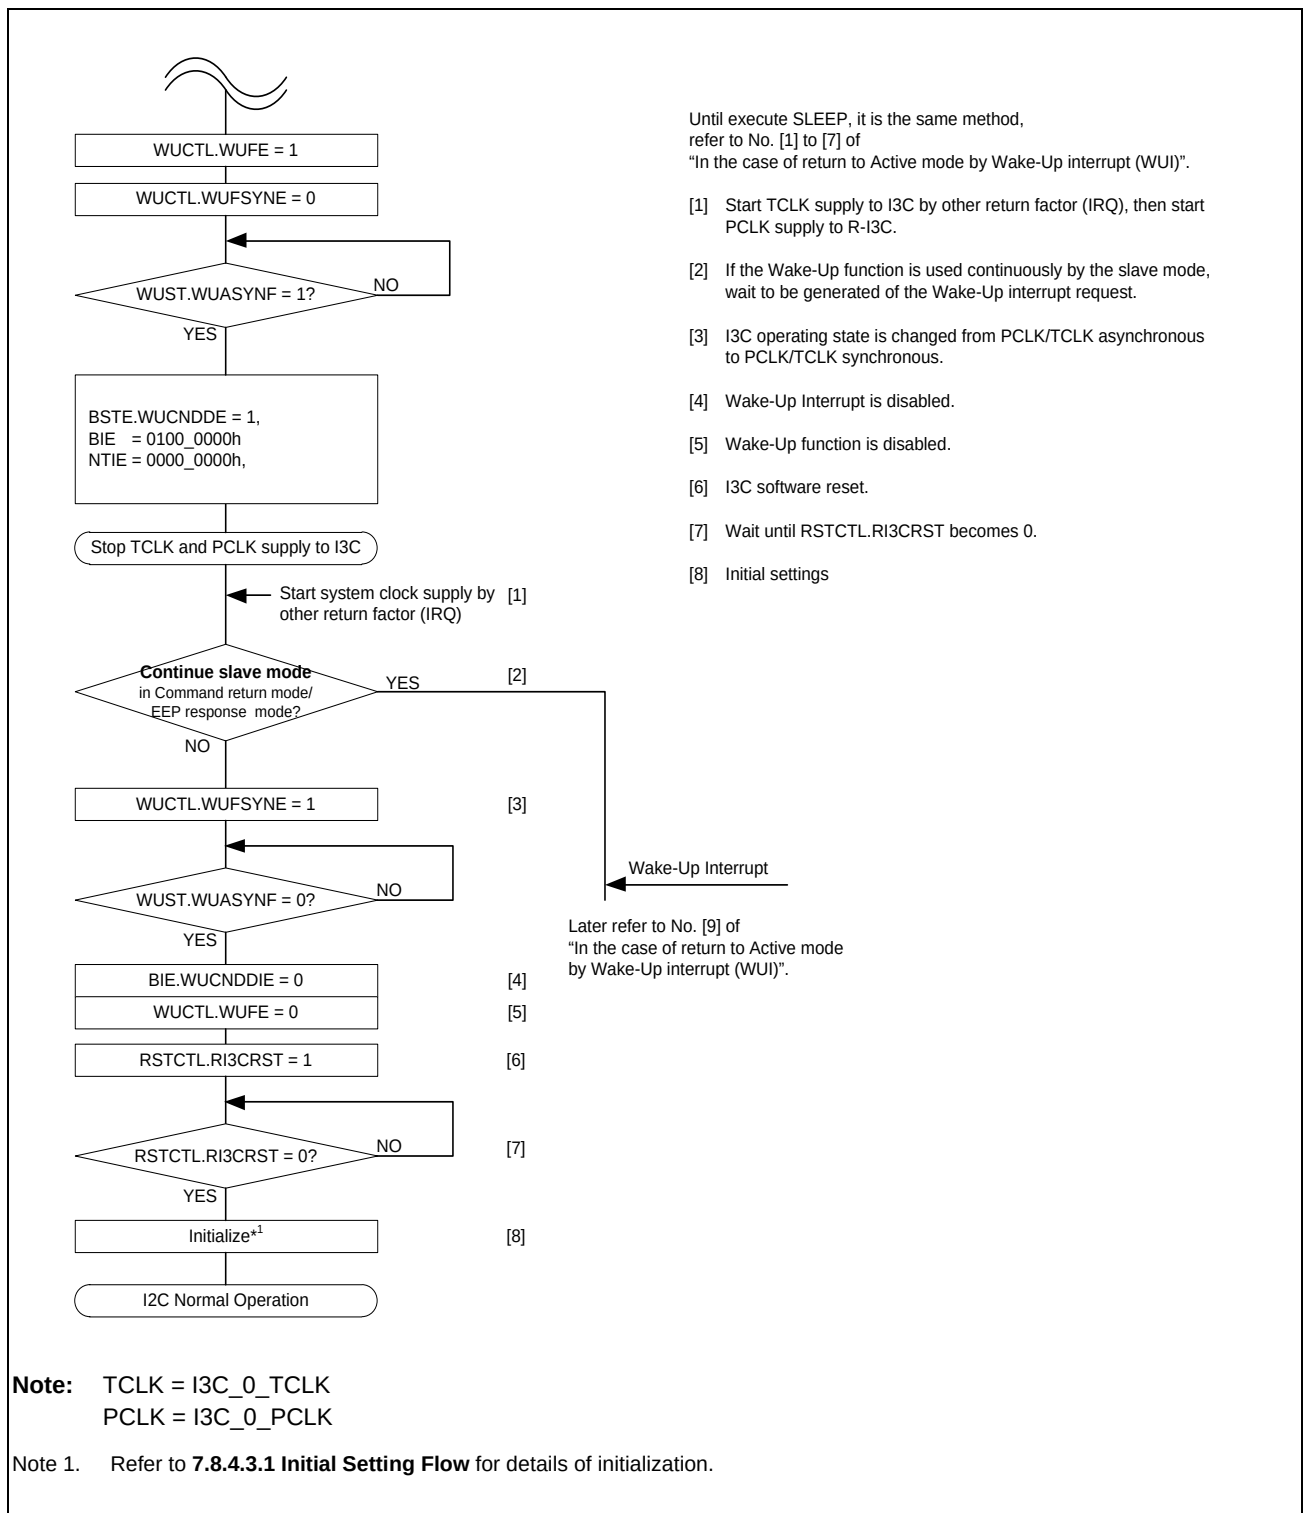

Figure 7.8-107 Use Case of Command Recover Mode and EEP Response Mode (Wake-up recovery by other recovery causes (IRQ))
2. A wake-up interrupt is not generated at the transition to the normal operation if the transition is triggered by a cause (other recovery causes (IRQ)) other than a wake-up interrupt signal generated by a slave address match. BST.WUCNDDF is not set in this case. Carry out the following processing according to **Figure 7.8-107**.